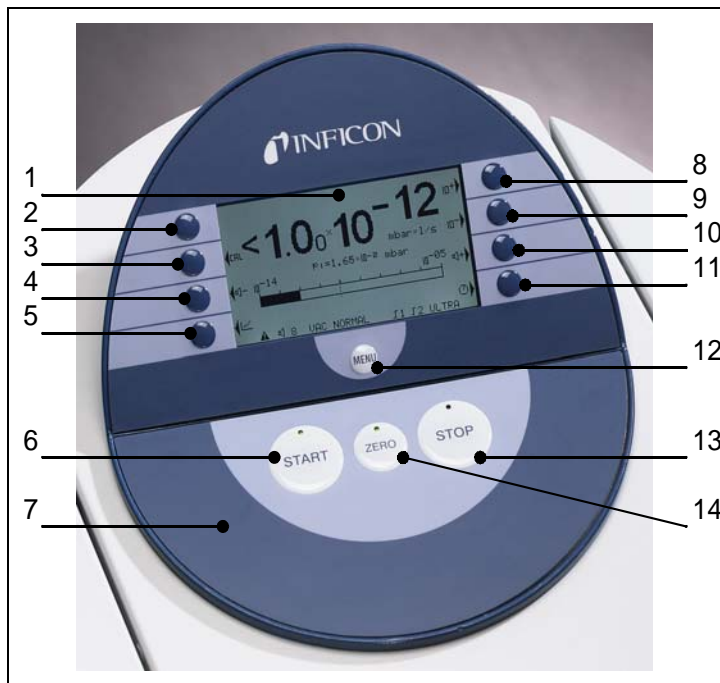

Fig. 4-2: Control Panel
The **Control Panel** Fig. 4-2/7 contains a liquid crystal display (LC Display), the **START**, **STOP**, **ZERO** and **MENU** buttons and also eight Soft Keys for the different menus and inputs.
The **LC Display** Fig. 4-2/1 is the communication interface to the operator. It displays the leak rates, the status report of the machine, messages, warnings and errors.
Pushing the **START Button** Fig. 4-2/6 enables the UL5000 to start the measure procedure. If the **START** button is pushed again in measurement mode, the maximum leak rate indicator („hold“ function) is activated. This indicator shows the maximum leak rate between „START“ and next „STOP“
Pushing the **STOP Button** Fig. 4-2/13 interrupts the measure procedure. If the button is pressed longer the inlet is vented according to the conditions defined in the menu **Vent delay**. See Chapter 6.6.1.2 **Vent delay** to select the time parameters of the venting.
Pushing the **ZERO Button** Fig. 4-2/14 enables the zero mode.
The menu appears on the LC Display after pushing the Fig. 4-2/12 during any working mode.
The function of the eight Soft Keys Fig. 4-2/2 ... /5 and /8 ... /11 depends on the current menu. Only key 1 and 8 very often have the functions *Back/Cancel* (Softkey no. 1) and *OK* (Softkey no. 8.).
- Soft Keys no. 1 Fig. 4-2/2 is *Cancel*.
- Soft Keys no. 8 Fig. 4-2/11 is *OK*.